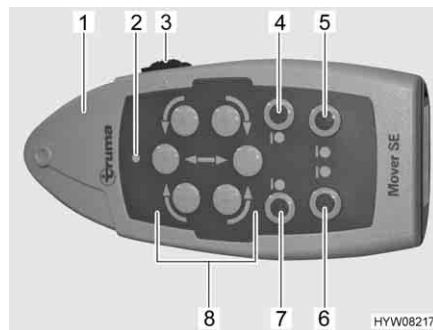

Fig. 8 Remote control
- Push the sliding switch (Fig. 8,3) on the remote control (Fig. 8,1) to "ON" (I). If the green LED (Fig. 8,2) lights up, the manoeuvring system is operational.
- Swivel the drive rollers onto the tyres on both sides. To do so, press the "Engage" (Fig. 8,4 and 7) buttons.
- Move the vehicle into the required position using the direction buttons (Fig. 8,8).
- Swivel the drive rollers away from the tyres on both sides. To do so, press the "Disengage" (Fig. 8,5 and 6) buttons.
- Push the sliding switch (Fig. 8,3) on the remote control to "OFF" (0).